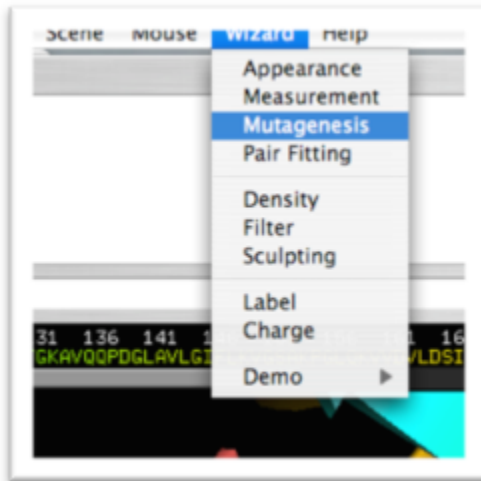

Fig. 1.4. The mutagenesis menu under Wizard.
- To make a mutation, go to the menu: Wizard>Mutagenesis (Fig. 1.4)